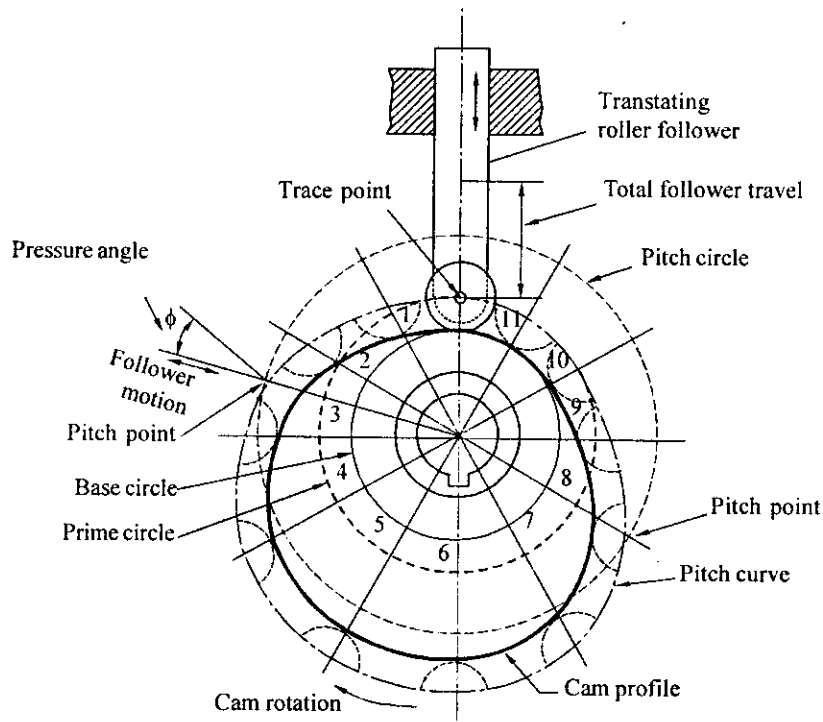

Fig. 8.5
**Definitions:** (Refer fig. 8.5)